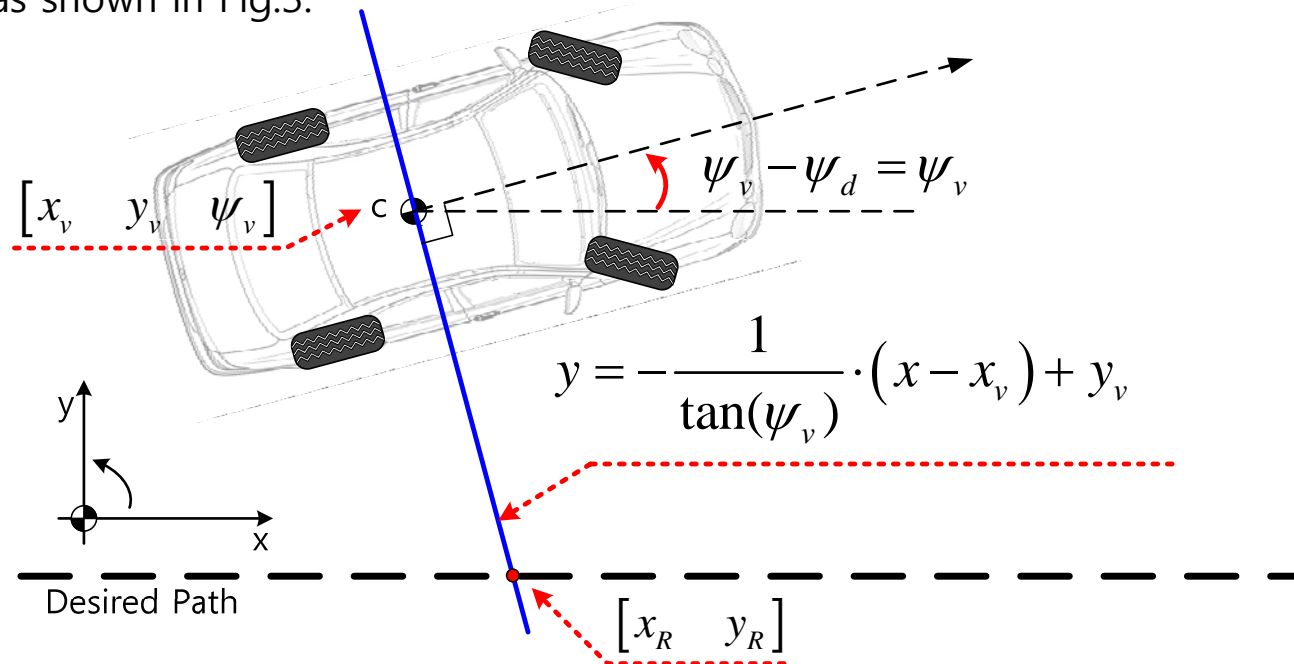

Fig.3 Tracking Error Calculator
- **Tracking Error Calculator:** When a desired path is a straight road ($\psi_d = 0$), the tracking error can be calculated as shown in Fig.3.